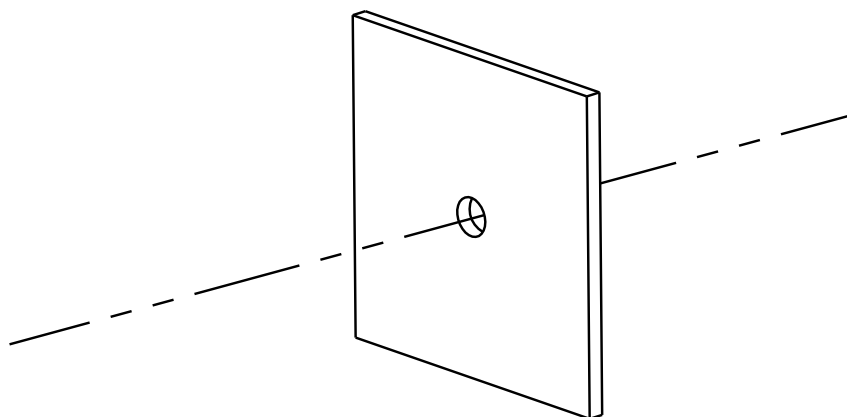

Figure 4-51 Drill on the Surface
1. Drill on the mounting surface. As shown in Figure 4-51.